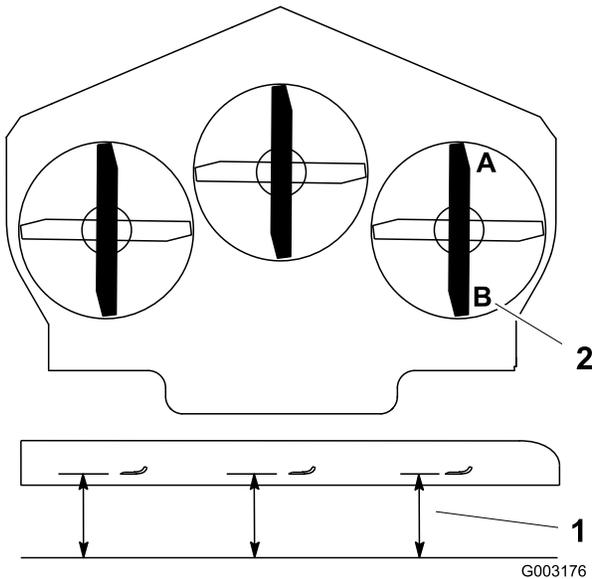

Figure 80
1. Position the right blade front-to-rear (Figure 80).
2. Measure the right blade at the **A** location, from a level surface to the cutting edge of the blade tip (Figure 80).
4. Measure the right blade at the **B** location, from a level surface to the cutting edge of the blade tip (Figure 80).
6. The mower blade should be a 6 to 10 mm (1/4 to 3/8 inch) lower at position **A** than at position **B** (Figure 80). If it is not correct, proceed to the following steps.